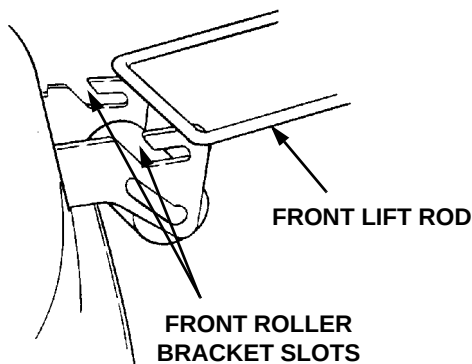

Figure 58
12. Raise the tractor implement lift handle to its highest setting. Roll the mower deck forward until the front lift rod slides up and out of the openings of both front roller bracket slots. Manually lift the rod out of the slots if necessary (Refer to Figure 58).
13. Raise the front lift rod upward and slide the mower deck rearward. Lower the front lift rod so it rests on the front roller bracket of the deck, forward of the slots (See Figure 58).